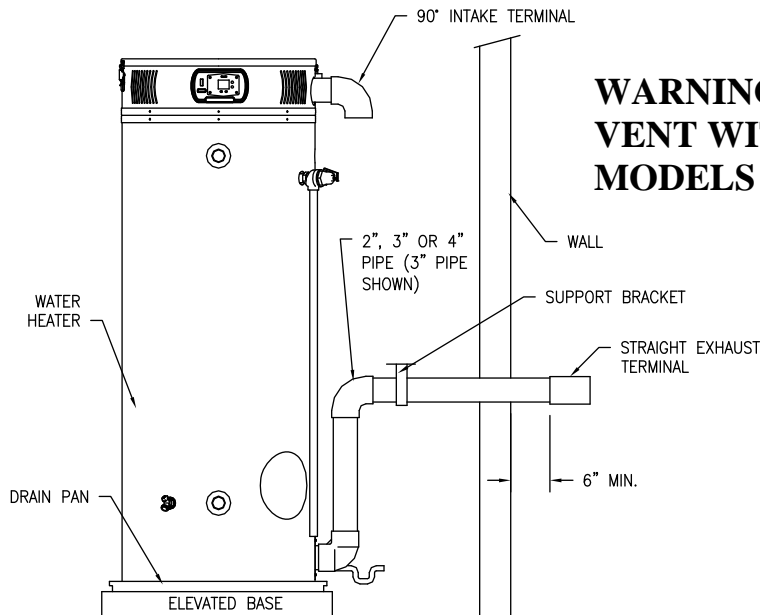

Figure 15. Typical Horizontal Power Vent System
2. Use the proper cement or sealant to secure the exhaust vent terminal provided with the water heater to the plastic pipes. The distance between the back edge of the exhaust vent terminal and the exterior wall (see Figure 15) must be 6 inches (13.0 cm). Use the proper cement and assembly procedures to secure the vent connector joints between the terminal and the blower outlet. Provide support brackets for every 3 feet (1.0 m) of horizontal vent.